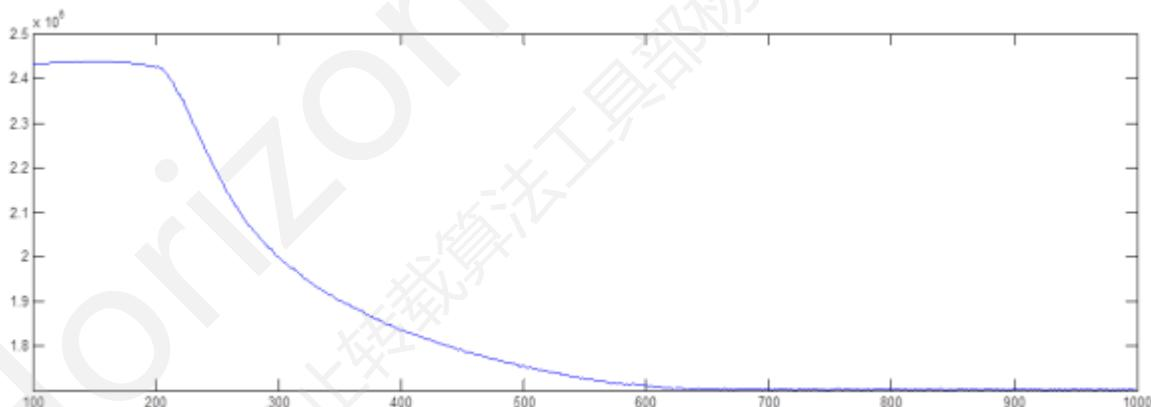

Figure 3.5-3 Focal response curve for infinity.
3. Copy these values into a spreadsheet such as Microsoft Excel. Then use them as coordinates to output the focus response graph for infinity (see Figure 3.5-3)